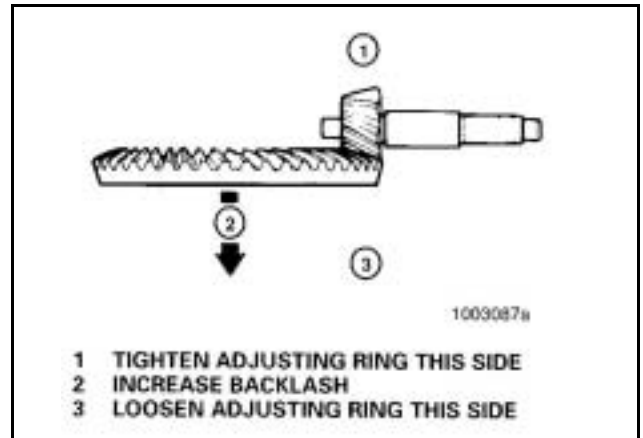
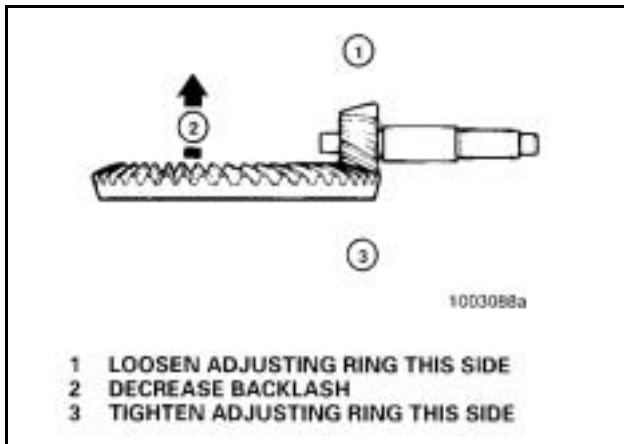

Figure 109
Figure 110
*Backlash is increased by moving the ring gear away from the drive pinion. **Figure 109.***
*Backlash is decreased by moving the ring gear toward the drive pinion. **Figure 110.***
6. Loosen one bearing adjusting ring one notch, then tighten the opposite ring the same amount. Refer to **Figure 109** and **Figure 110.**